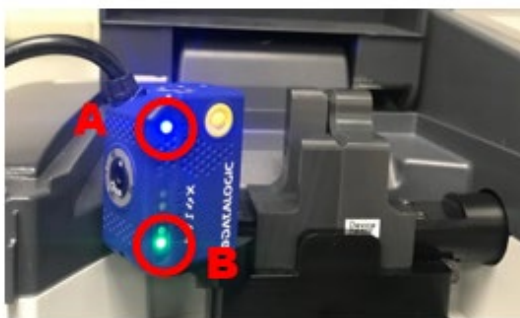

Figure 1
- 6.1.2 Wait approximately 20 seconds for the scanner to initialize. The scanner will be ready to operate once the steady green Run LED appears on the hardware. (See example in *Figure 1* below).